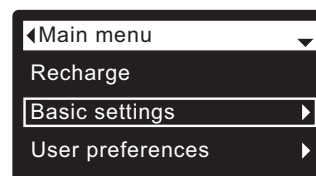

FIG. 30
1. From any of the rolling status screens, press the SELECT (O) button to display the **Main menu**.
2. Press the DOWN (▼) button to scroll through the menu options until **Basic settings** is highlighted (See Figure 30).